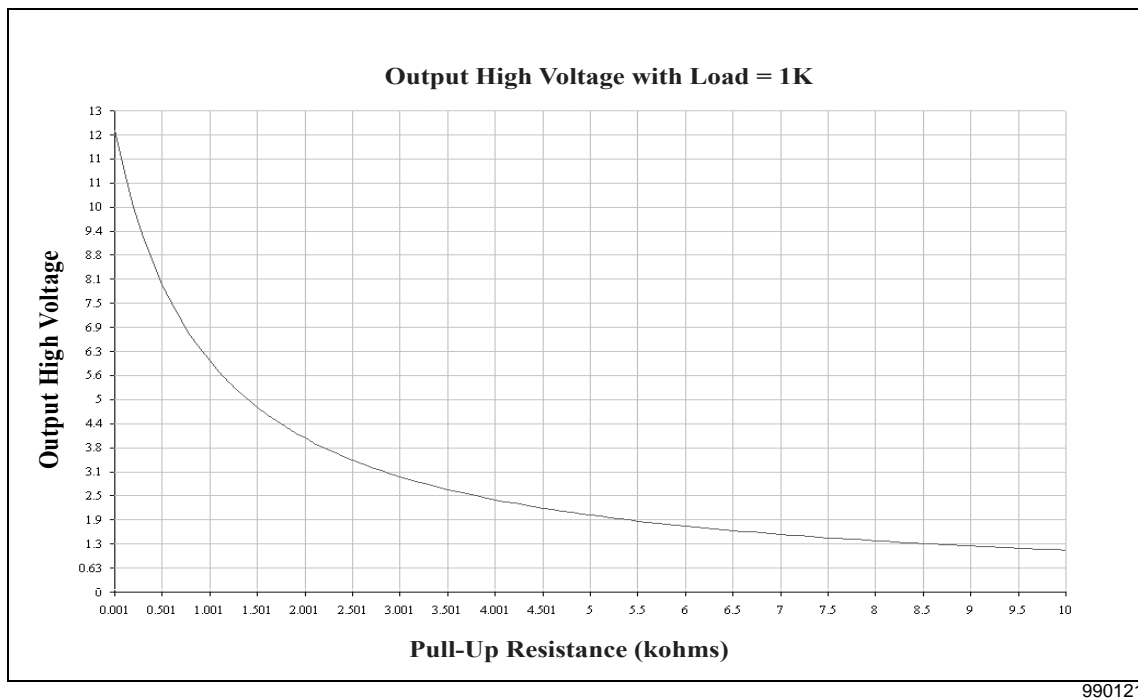

Figure 4-3. NUF3902: Output High Voltage versus Pull-up Resistance
Figures 4-3 through 4-5 are plots that show the effect of pull-up and load resistances on the output high voltage. The output low voltage is guaranteed to be less than 0.5V as long as no more than 25 mA is being sunk.
- 12V: Figures 4-3, 4-4, and 4-5 for NUF3902
This value for R_{PU} can be cross checked to see if the system specifications can be met. From the graph in Figure 4-3, with a pull-up of 2000 ohms, the V_{OHmin} will be approximately 10V, thus the specification is met.